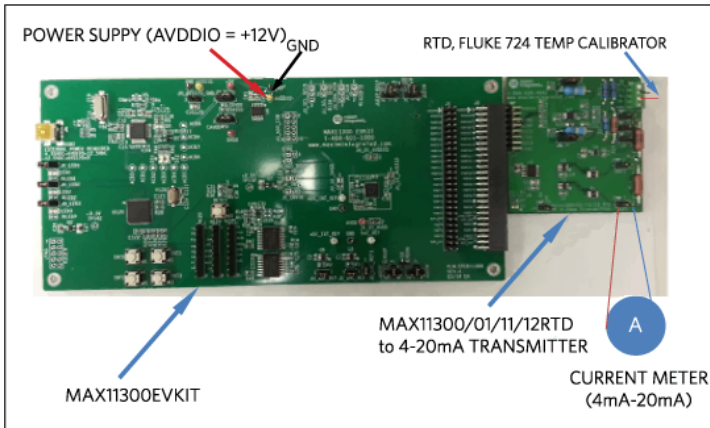

Figure 5. MAX11300EVKIT connected to the RTD to 4–20mA transmitter.
1. Connect the J2 connector of the MAX11300EVKIT board to the J1 connector of the MAX11300/MAX11301/MAX11311/MAX11312 RTD to 4–20mA Transmitter board as shown in **Figure 5**.